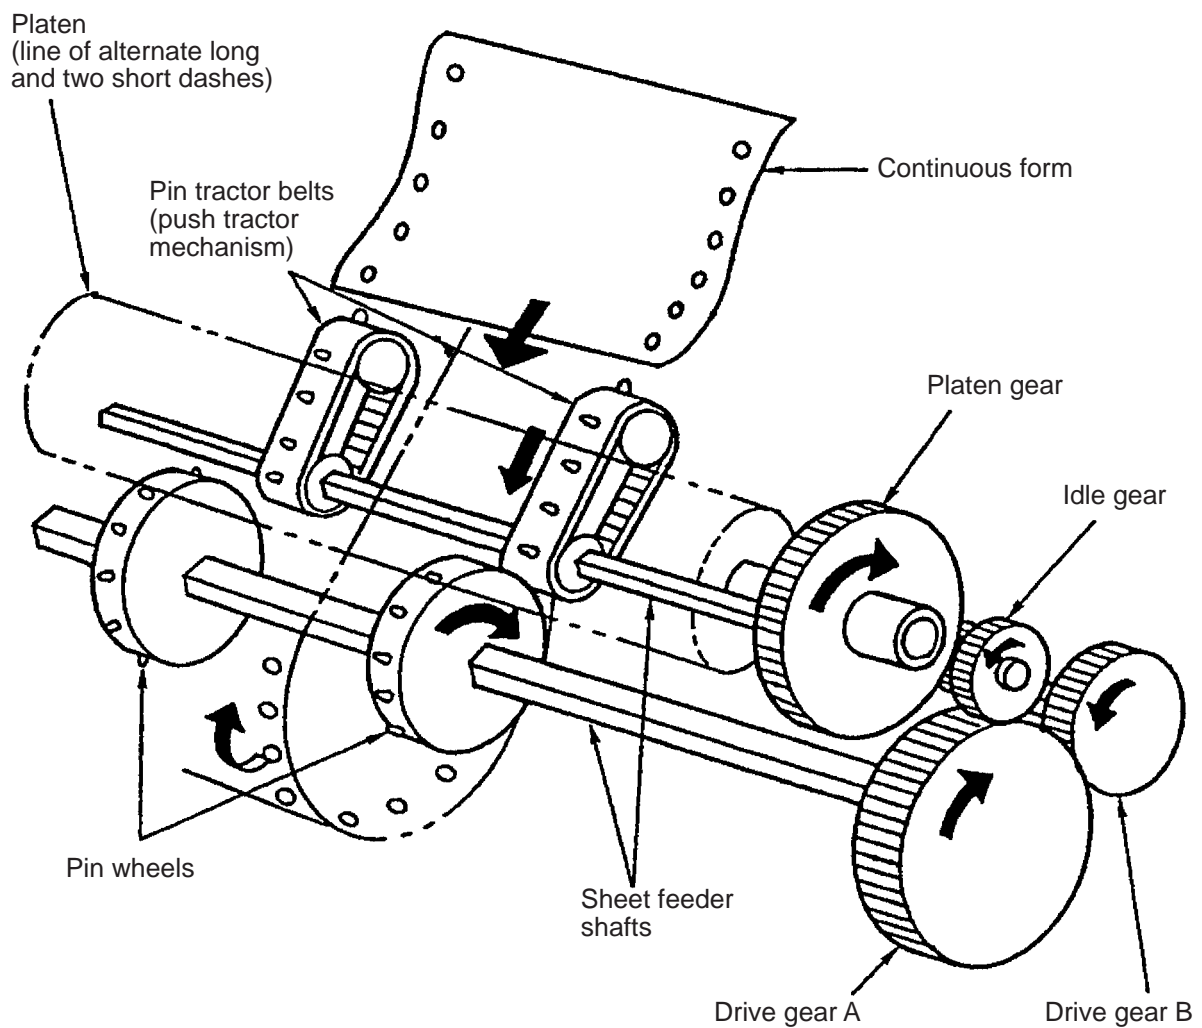

Figure 2-8 Continuous form feeding mechanism
(2) Continuous form feeding mechanism (See Figure 2-8)